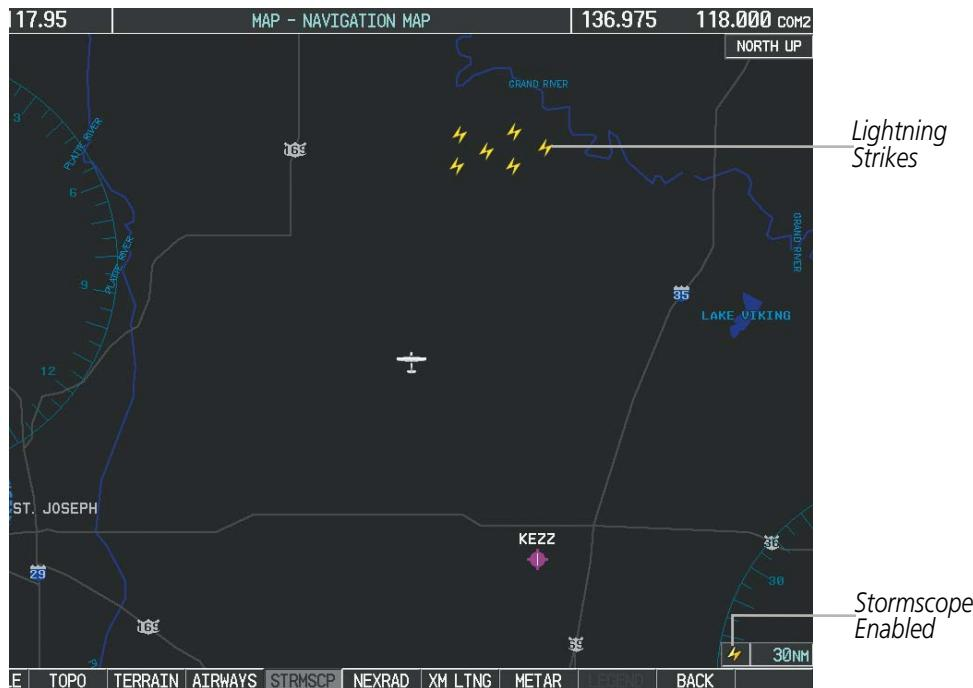

Figure 6-112 Navigation Map Page with
- 7) Press the **FMS** Knob to return to the Navigation Map Page (Figure 6-112).
On the Navigation Map, cell mode identifies cells of lightning activity (Figure 6-112). Stormscope identifies clusters of electrical activity that indicate cells. Strike mode indicates the approximate location of lightning strikes.